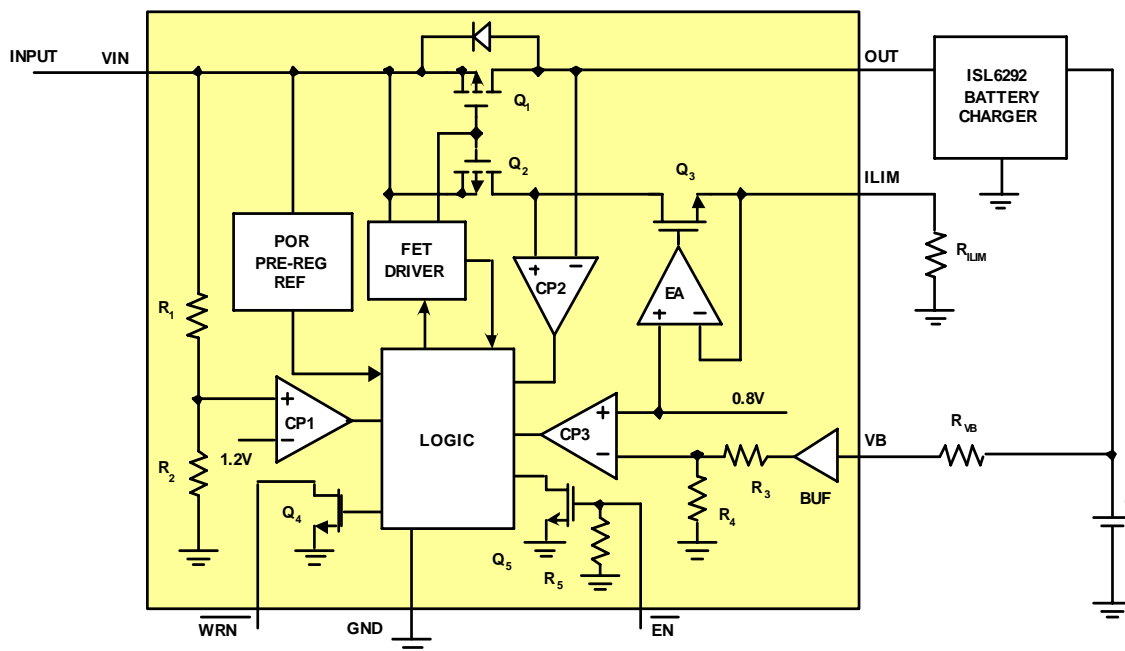
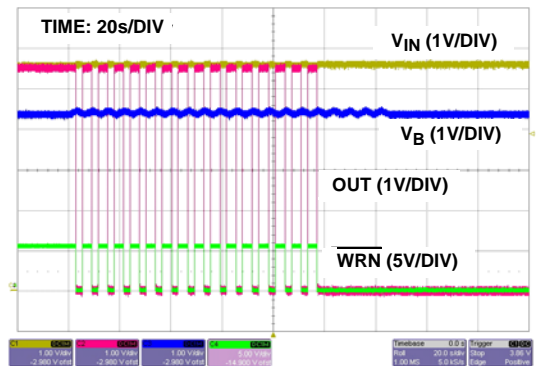

FIGURE 1. BLOCK DIAGRAM
FIGURE 7. BATTERY OVERVOLTAGE PROTECTION. THE IC IS LATCHED OFF AFTER 16 COUNTS OF PROTECTION. VB VOLTAGE VARIES BETWEEN 4.3V TO 4.5V
The input voltage is monitored by the comparator CP1 in the Block Diagram (Figure 1). CP1 has an accurate reference of 1.2V from the bandgap reference. The OVP threshold is set by the resistive divider consisting of  $R_1$  and  $R_2$ . The protection threshold is set to 6.8V. When the input voltage
The battery voltage OVP is realized with the VB pin. The comparator CP3, as shown in Figure 1, monitors the VB pin and issues an overvoltage signal when the battery voltage exceeds the 4.34V battery OVP threshold. The threshold has 30mV built-in hysteresis. The comparator CP3 has a built-in 180µs blanking time to prevent any transient voltage from triggering the OVP. If the OVP situation still exists after the blanking time, the power PFET is turned off. The control logic contains a 4-bit binary counter that if the battery overvoltage event occurs 16 times, the power PFET is turned off permanently, as shown in Figure 7. Recycling the input power or toggling the enable (EN) input will reset the counter and restart the ISL9212B.
The current in the power PFET is limited to prevent charging the battery with an excessive current. The current is sensed using the voltage drop across the power FET after the FET is turned on. The reference of the OCP is generated using a sensing FET Q2, as shown in Figure 1. The current in the sensing FET is forced to the value programmed by the ILIM pin. The size of the power FET Q1 is 31,250 times the size of the sensing FET. Therefore, when the current in the power FET is 31,250 times the current in the sensing FET, the drain voltage of the power FET falls below that of the sensing FET. The comparator CP2 then outputs a signal to turn off the power FET.